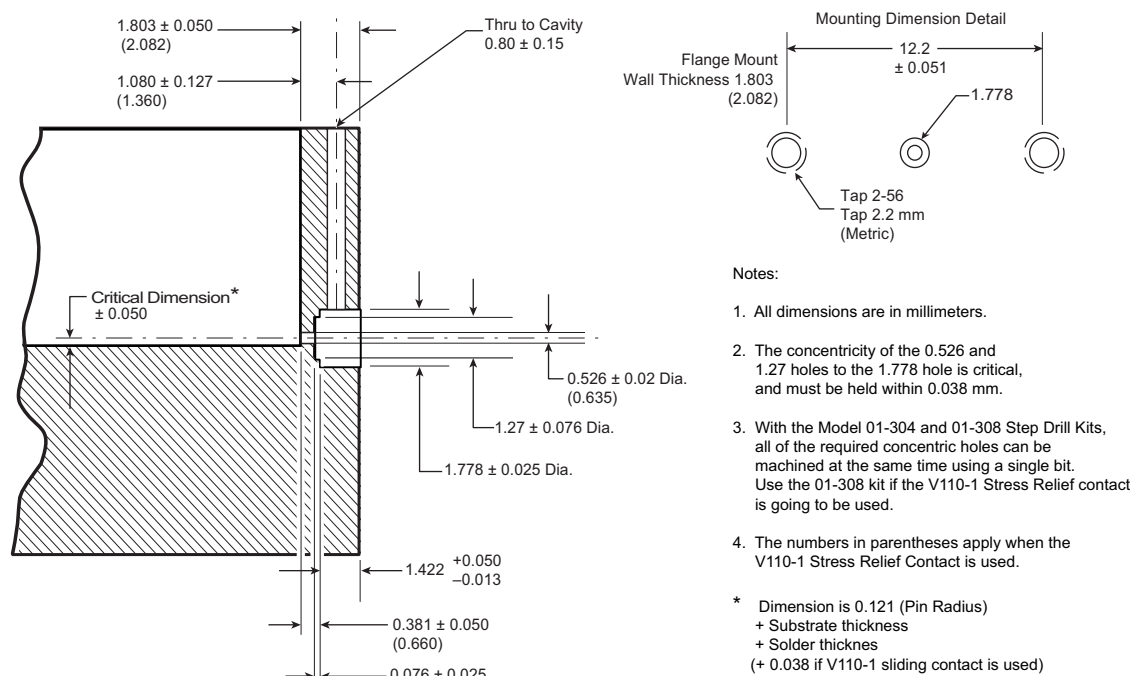

Figure 6-1. V103M-R Machining Dimensions for the Flange Mount Connector Mounting Holes
Machining dimensions for the mounting hole required for installation of the microstrip to V female flange mount connector are provided in Figure 6-1 on page 6-2.
Caution	The three holes shown in Note 2 of Figure 6-1 must be concentric within ± 0.038 mm. If they are not, connector performance will be degraded. To make this required concentricity easier to achieve, the custom made Finishing Step Drill & Tap Kits, Models 01-304 and 01-308, are available from Anritsu.
- V103M-R: Figure 6-1 on page 6-2
- **V103M-R:** Figure 6-1 on page 6-2
Note For V103F-R and V103M-R flange mount connectors, the horizontal orientation of the flange mounting-screw holes are shown for information only (see Figure 5-1 on page 5-2 and Figure 6-1 on page 6-2). In practice, the mounting hole pattern may be rotated as needed to any position (except for vertical to avoid the solder access hole).